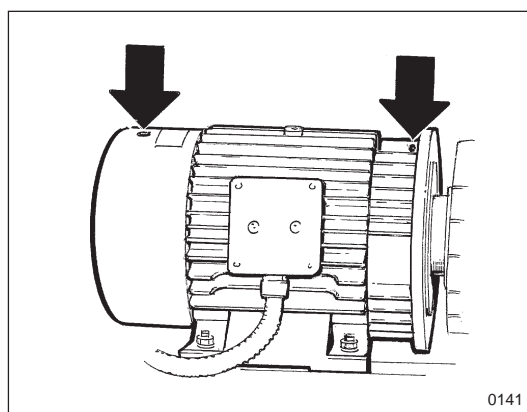

Figure 7.
3. Lubricate the motor shaft bearings with a force-feed grease gun (two lubrication fittings on each motor, figure 7), one pump stroke at each lubrication point.
Fig. 7 The machine has five different detergent compartments. The flushing of detergent and conditioner is controlled by five external water valves V4-V8. The following conditions must be met for any of the valves to be controlled: